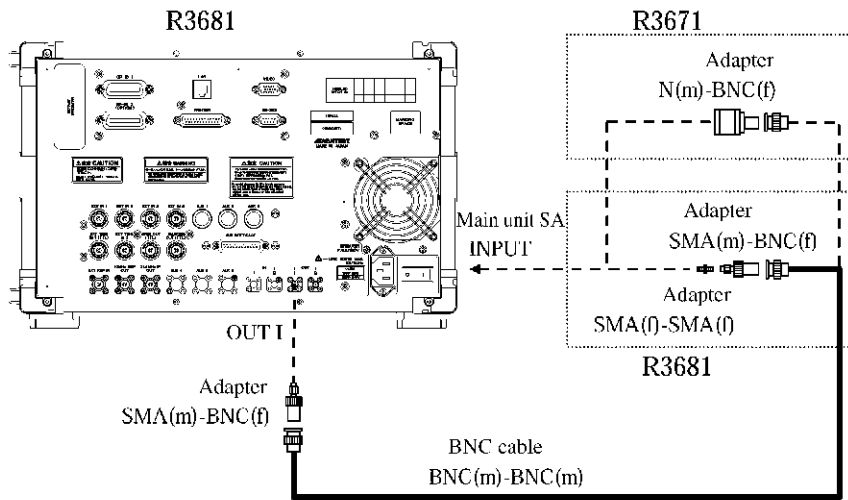

Figure 8-5 Sampling Frequency Verification Connection Diagram
2. Connect the instruments as shown in Figure 8-5.